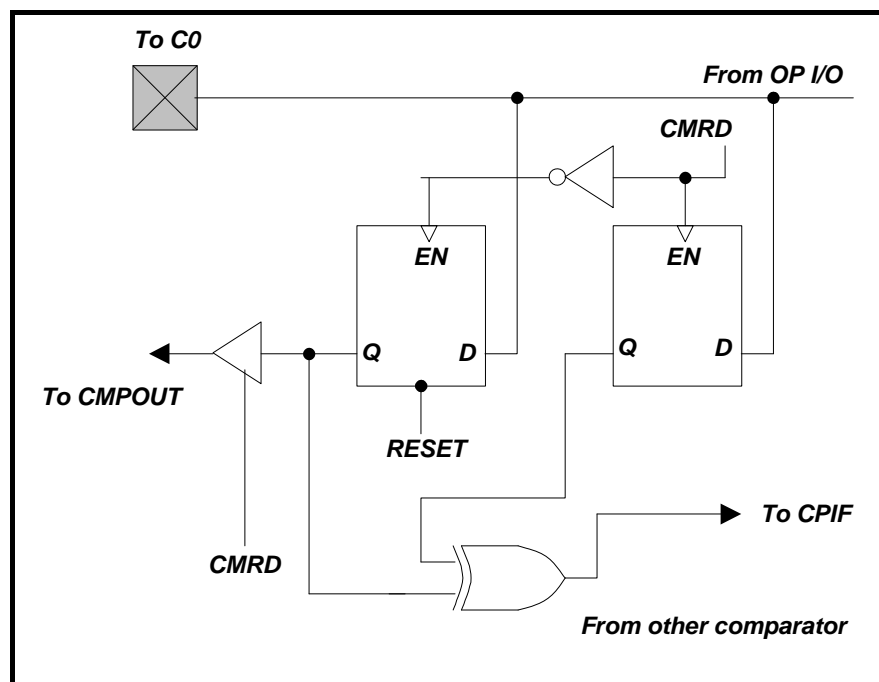

Figure 6-18 Comparator Output Configuration
- Figure 6-18 shows the comparator output block diagram.